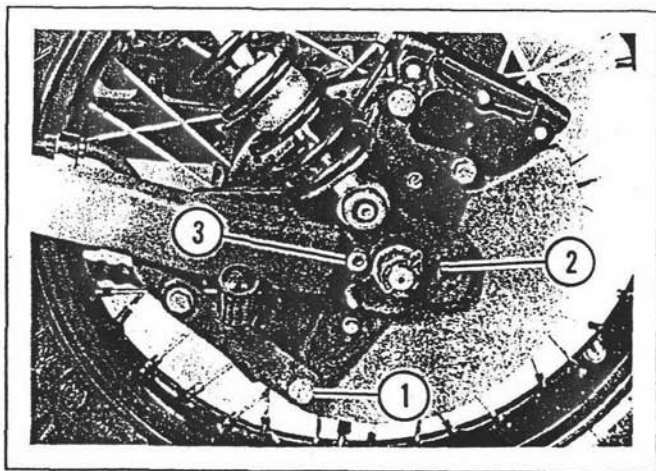

Figure 5-27. Left Chain Adjustment Cam
3. See Figure 5-27. Using a 6 mm hex key and a 13 mm open end wrench, loosen socket head screw (1) on torque arm so that wheel can be moved easily.
4. Pull wheel back until adjustment cam (2) is free of stop screw (3).
8. See Figure 5-27. Using a 6 mm hex key and a 13 mm open end wrench, tighten socket head screw (1).